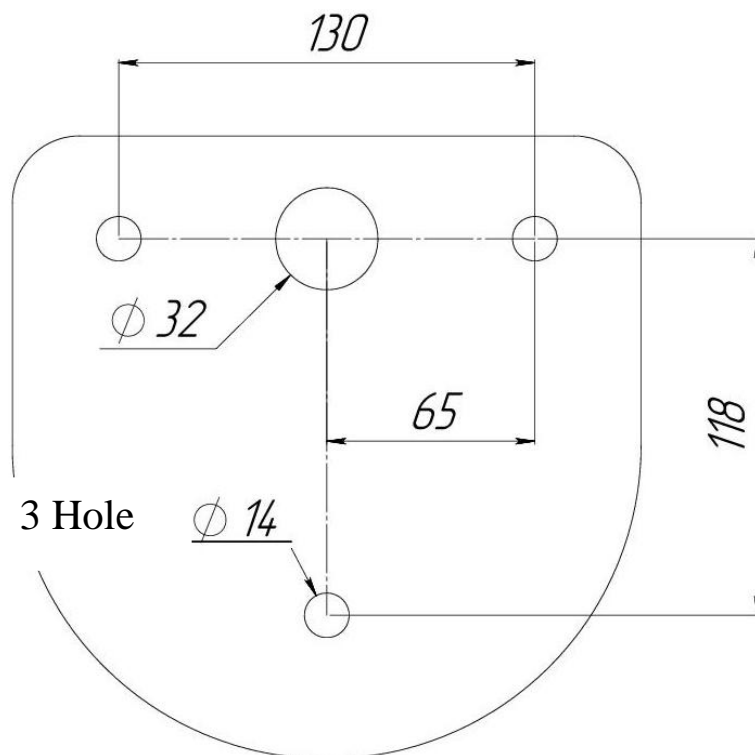

Fig 3. *Linkage dimension*
4.2.3. According to the dimensions shown in Fig. 3, prepare three 20mm diameter holes in the floor for anchors (the location of the mounting holes regarding to the dimensions of the card reader is shown in Annex 2). Depth of the hole should exceed the length of the anchor for more than 5mm. Put the anchors in the holes.
4.2.4. Cable routing is carried out through 32 mm diameter hole (Fig. 3) in the lower plate of the card collector.
4.2.7. Set the housing of card collector on the prepared area (Fig. 3). Open the hatch using the wrench. Bring the PS, OD and ACS cables inside the card collector housing. Secure the cables with cable ties.